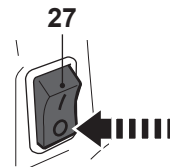

Fig. 31
- > Release the throttle trigger (26) and let the product run in idle for a while.
- > Set the ignition switch (27) to “O” (off position) (Fig. 31).